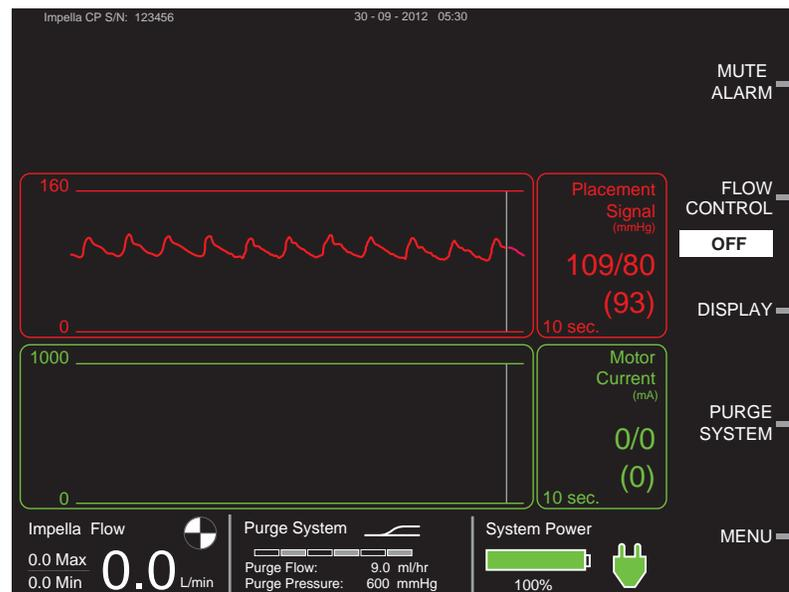

Figure 5.25 Aortic Waveform on Placement Screen
13. Confirm position with fluoroscopy and confirm that an aortic waveform (see Figure 5.25) is displayed on the Automated Impella® Controller.